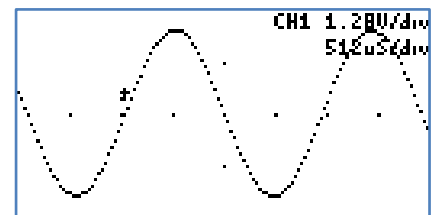

Figure 39: Pixel Display
- **Pixel:** A single pixel represents a sample. The pixel display is useful at slow sampling rates or when used in combination with the persistent mode. Figure 39 shows the pixel display.